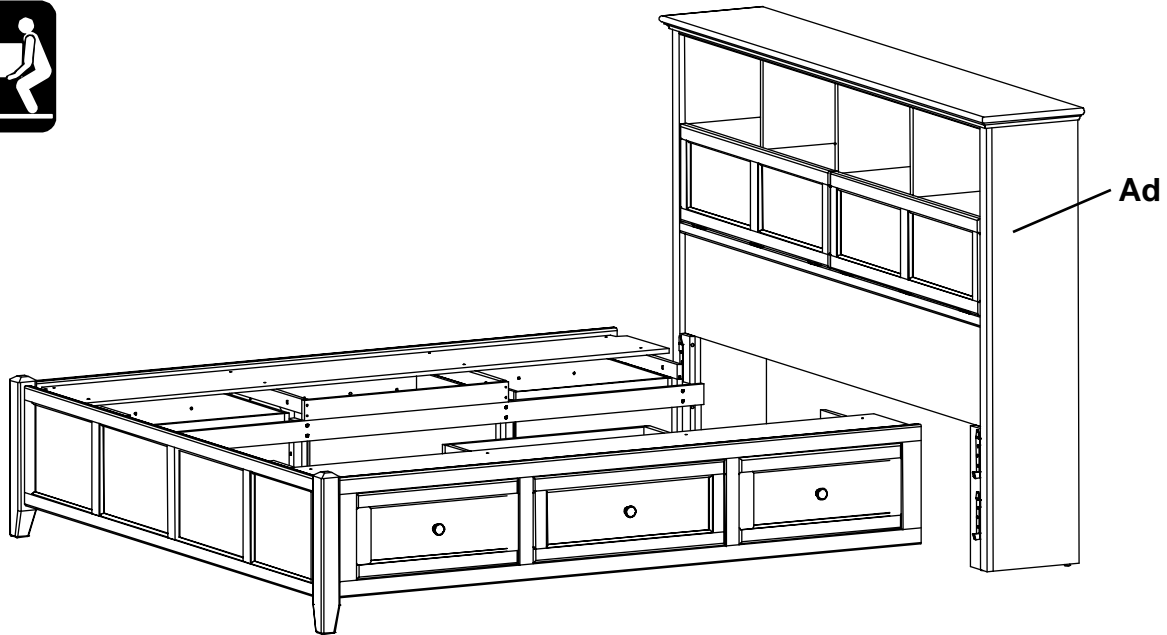

Fig. 5
5. Align the Brackets on both sides and slide the Pedestal/Footboard assembly down on to the Headboard (Ad). See Figure 5.